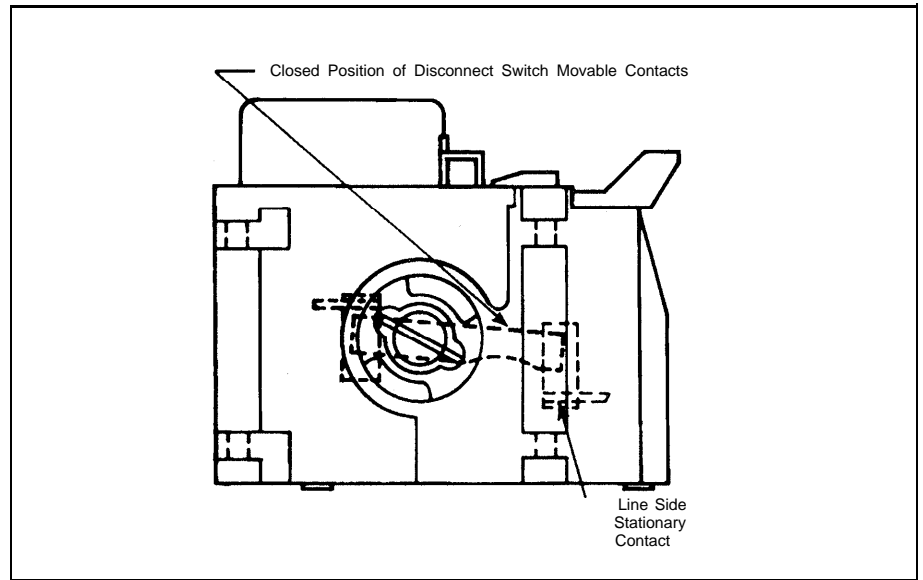

Figure 10
3. Rotate the crossbar assembly in a clockwise direction to the “CLOSED” position. (i.e. full engagement of the movable contacts into the line side stationary contacts as shown in Figure 10.) Use any convenient adjustable wrench or pliers to aid in turning.